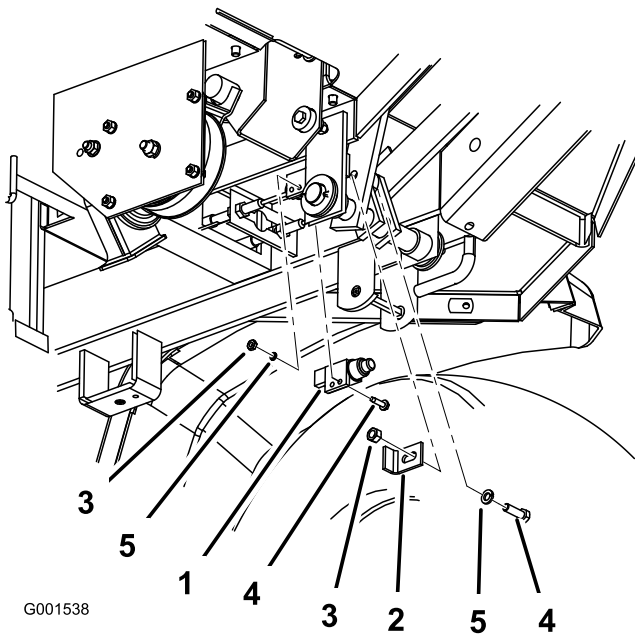
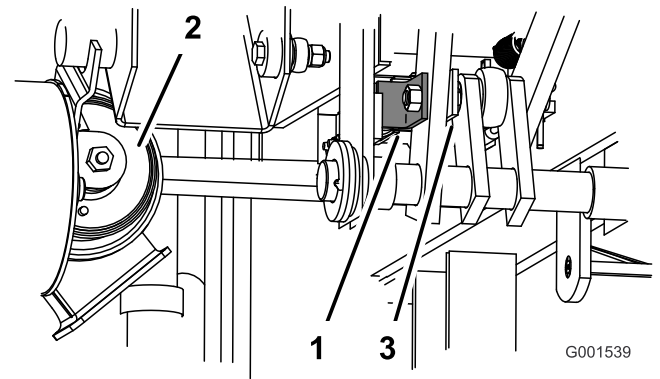

Figure 5
Figure 6
3. Install the new brake switch with the previously removed hardware (Figure 5).
4. Install the new brake switch bracket with the previously removed hardware (Figure 5 and Figure 6).